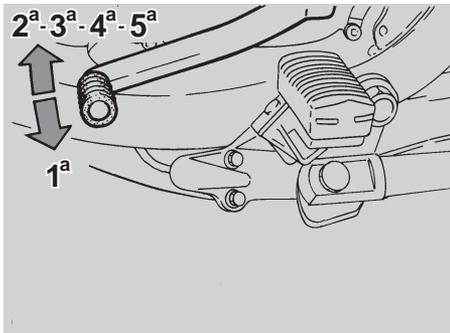

Fig. 21
- ◆ With released throttle grip and idling engine, pull the clutch lever and engage the first gear by pressing the gearshift foot lever downwards (Fig. 21).
- ◆ When the vehicle has reached a certain speed, release the throttle grip, pull the clutch lever and engage the second gear by lifting the gearshift foot lever (Fig. 21).